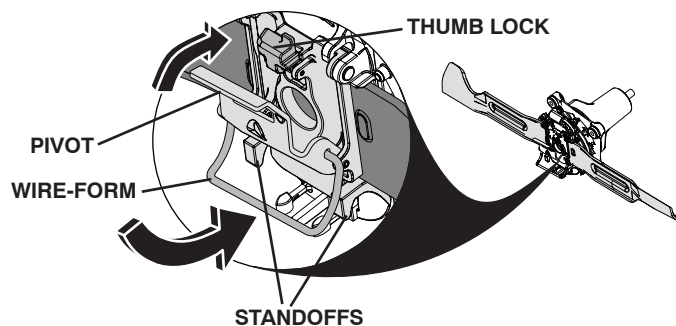

Fig. 20
- Push pivot closed until secured by the thumb lock. (See Fig. 20.)